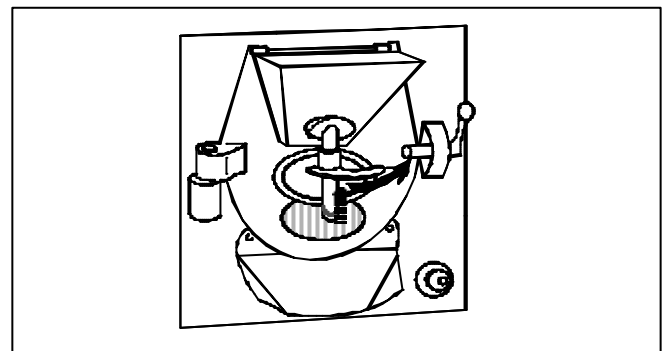

Figure 24
- Lock the ice cream gate on top by turning the handle to the right until it stops (ref. Fig 24).